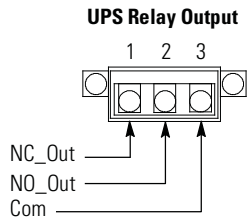

Figure 4-14. Relay Contact Terminal Block Connector Assignments
14. Connect the relay output interface wiring to the relay output terminals. See paragraph 3.2.4 and Table 4-3 for wiring and termination requirements, and Figure 4-14 for terminal assignments.